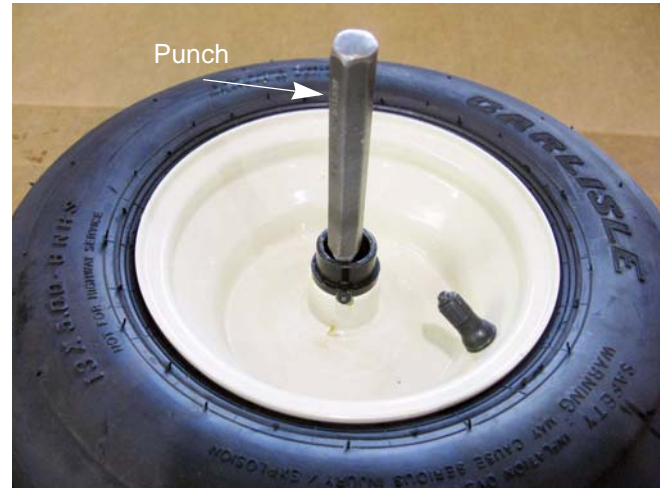

Figure 5.11
3. Drive the bearings out of the wheel hub using a drift or pin punch. See Figure 5.11.